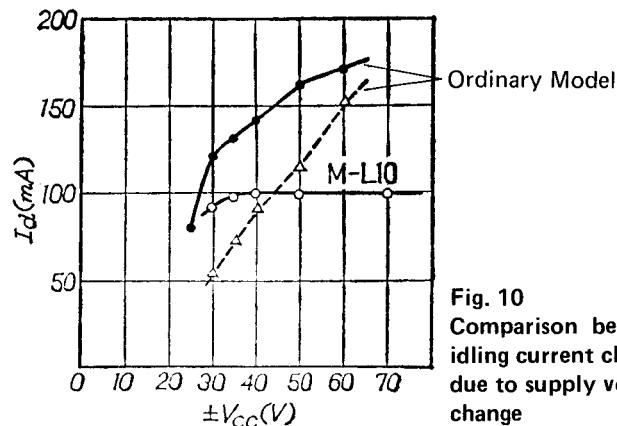

Fig. 10
This relates to feature (1). A large change of the supply voltage does not lead to change of the idling current. This is a great feature of stable operating point. When this circuit is compared with an ordinary circuit, it is as shown in Fig. 10. Practically, even when the voltage at the AC primary side drops from 100 % to 50 %, M-L10 operates normally with no change of the distortion rate except that the maximum rated output drops from 160 W to 40 W, thus providing high stability.